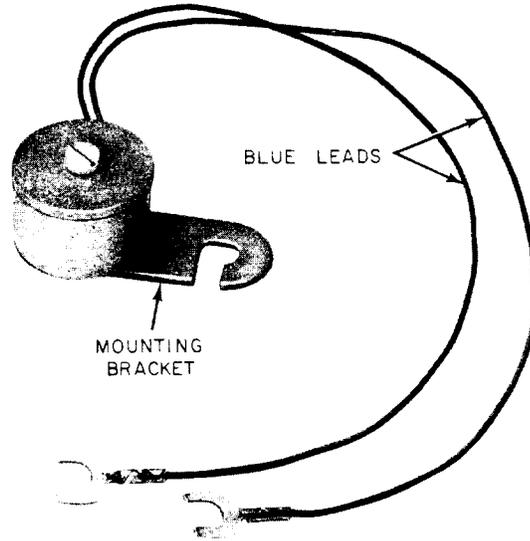

Fig. 7—KS-20419L1 Buzzer
2.12 The miniature KS-20419 type buzzers (Fig. 7 and 8) are 3/4-inch in diameter, 1/2-inch thick, and are equipped with two spade-tipped leads 7-1/2 inches long. They have a mounting bracket secured to the buzzer housing. The bracket is slotted and 1-1/4 inch in length and can be mounted with a single screw at a suitable location inside the telephone set.
(a) The KS-20419L1 buzzer (Fig. 7) has only a screw in the center of the buzzer. The KS-20419L1 has no volume adjustment.